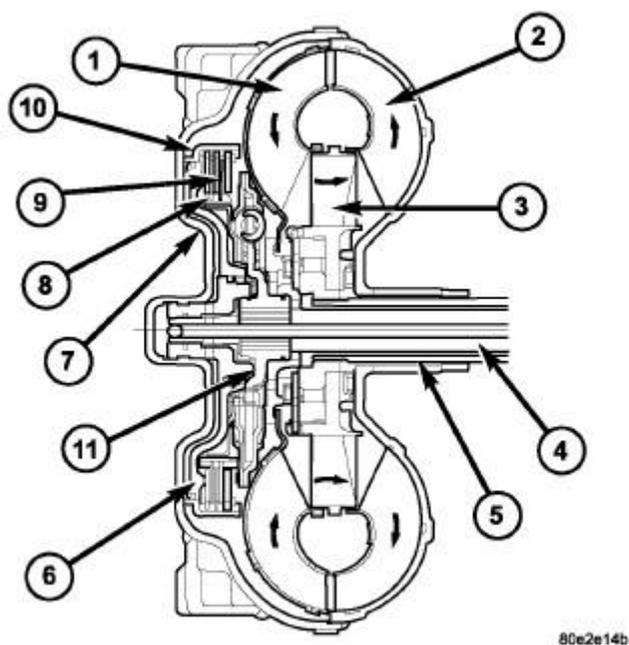

Fig. 213: Identifying Torque Converter Components
The TCC (9) was installed to improve the efficiency of the torque converter that is lost to the slippage of the fluid coupling. Refer to **Fig. 213**. Although the fluid coupling provides smooth, shock-free power transfer, it is natural for all fluid couplings to slip. If the impeller and turbine were mechanically locked together, a zero slippage condition could be obtained. A hydraulic piston with friction material was added to the turbine assembly to provide this mechanical lock-up.